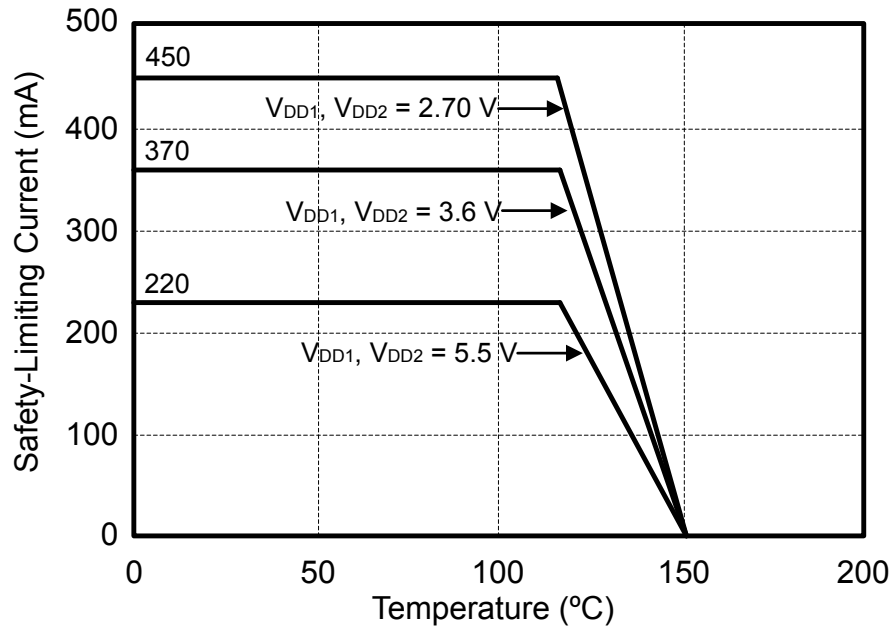
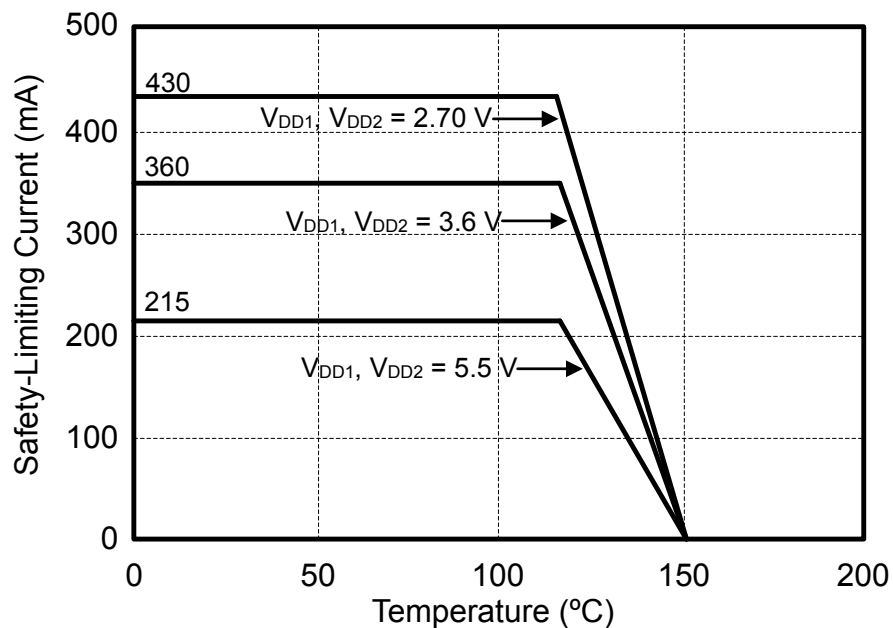

Figure 5.4. (WB SOIC-16) Thermal Derating Curve, Dependence of Safety Limiting Values with Case Temperature per DIN EN 60747-5-2
Figure 5.5. (NB SOIC-16) Thermal Derating Curve, Dependence of Safety Limiting Values with Case Temperature per DIN EN 60747-5-2
- Maximum value allowed in the event of a failure; also see the thermal derating curve in [Figure 5.4 \(WB SOIC-16\) Thermal Derating Curve, Dependence of Safety Limiting Values with Case Temperature per DIN EN 60747-5-2 on page 23](#) and [Figure 5.5 \(NB SOIC-16\) Thermal Derating Curve, Dependence of Safety Limiting Values with Case Temperature per DIN EN 60747-5-2 on page 23](#).